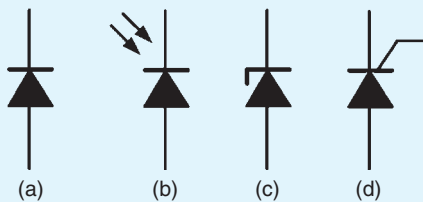

Figure 11.20
1. Identify the types of diodes shown in Fig. 11.20.